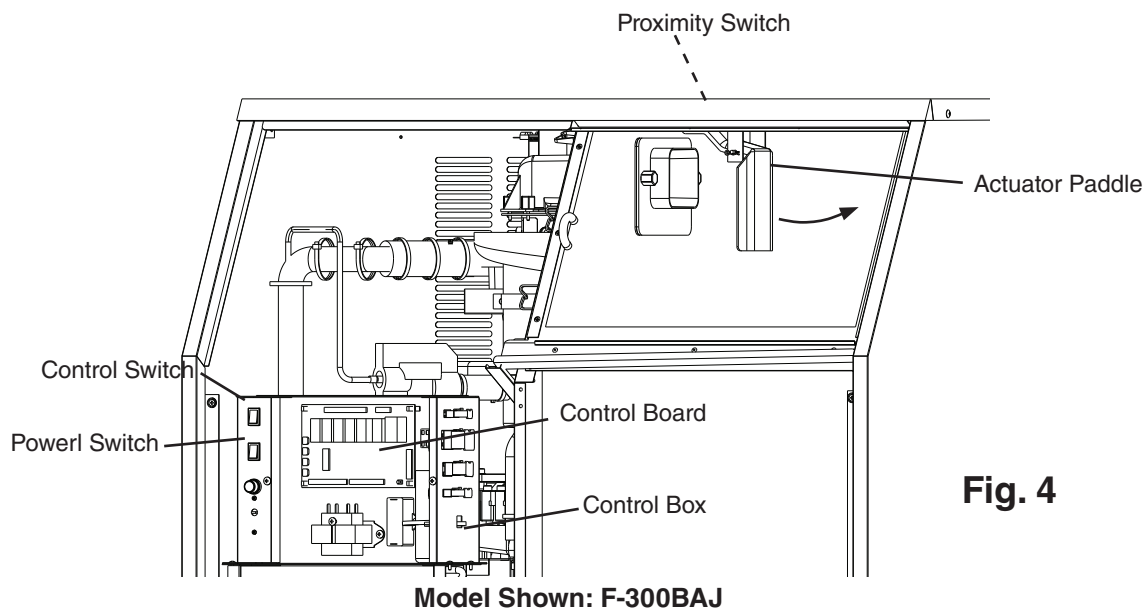

Fig. 4
- 9) Press the actuator paddle located in the top of the bin to the right (actuator paddle engaged). See Fig. 4. The 90-sec. Comp shutdown timer starts. Once 90-sec. Comp shutdown timer terminates, Comp and FM de-energize and 60-sec. GM shutdown timer starts. Once 60-sec. GM shutdown timer terminates, GM de-energizes.